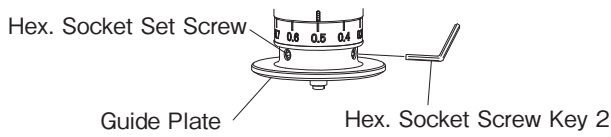

Fig.7
- (2) Indexable Insert replacement method
- a. Loosen two Hex. Socket Set Screws on the Guide Plate with the accessory Hex. Socket Screw Key 2. (Fig.7)